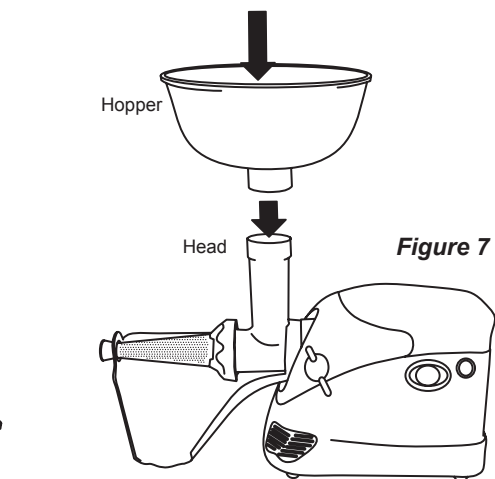

Figure 7
13. Install the **Hopper** onto the **Head**. Press the **Hopper** down until fully seated (figure 7).